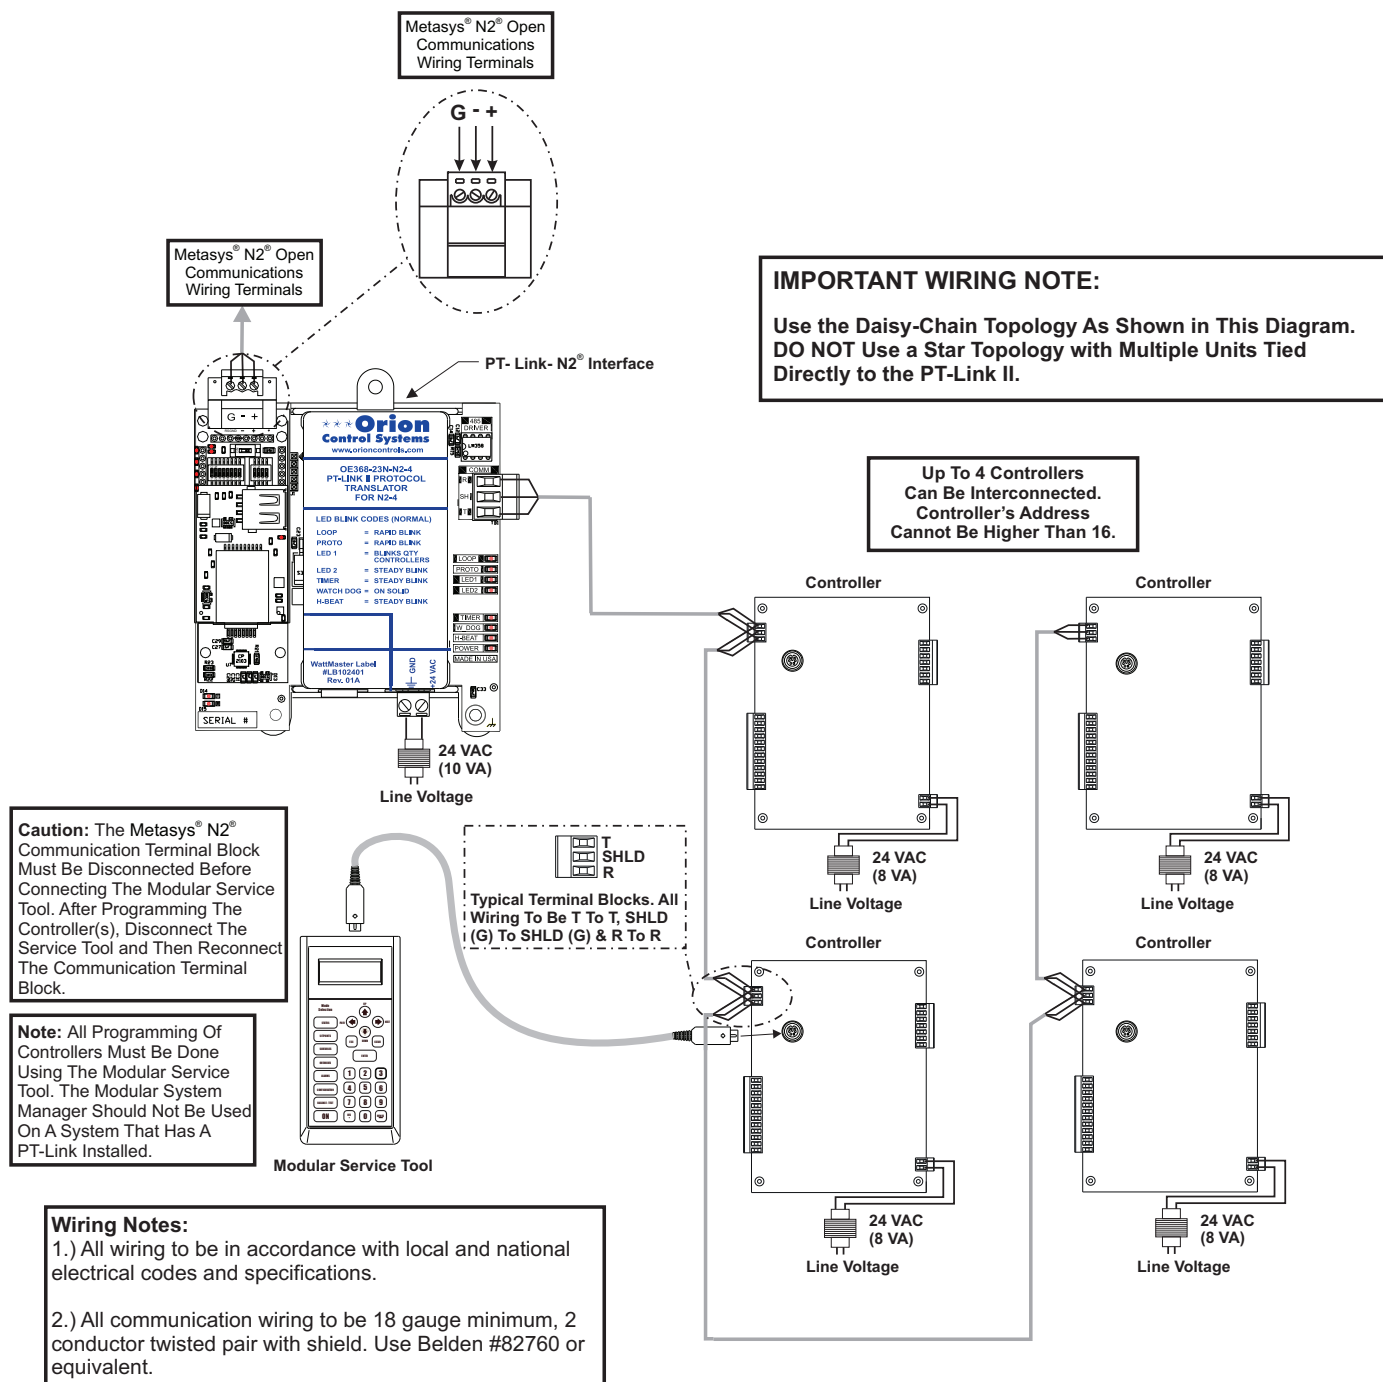

Figure 2: PT-Link II N2® Interface Wiring
2. Connect your PT-Link II to the Controller(s) on your system (up to four) and connect your PT-Link II to the N2-4 Network (**Figure 2**).